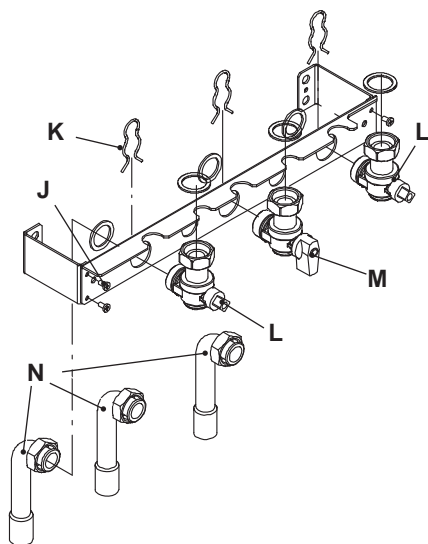

Fig. 6.3
- Assemble the pre-piping kit bracket by screwing the four screws " J " Fig. 6.3.